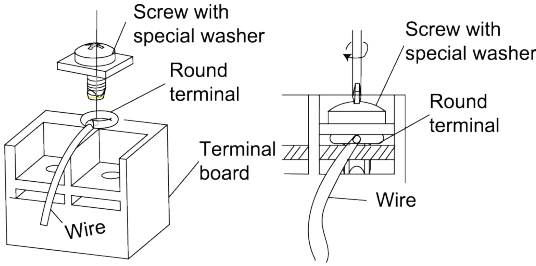

Fig. 4.38
- 4). Position the round terminal wire, and replace and tighten the terminal screw with a screwdriver (Fig. 4.38).